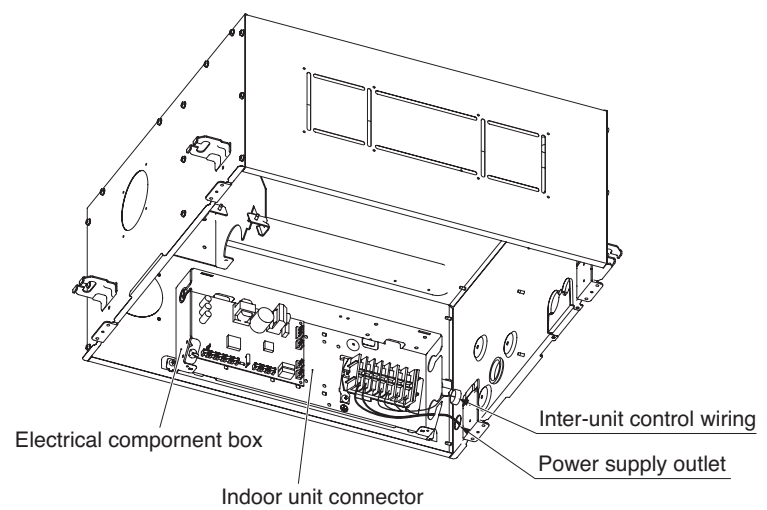

Fig. 3-58
- (2) Fasten the wiring connector (7P, red) which comes out from the ceiling panel using the lead wire clamps (2 locations) on the unit. Then connect it to the connector (7P, red) inside the indoor unit electrical component box. (Fig. 3-58)